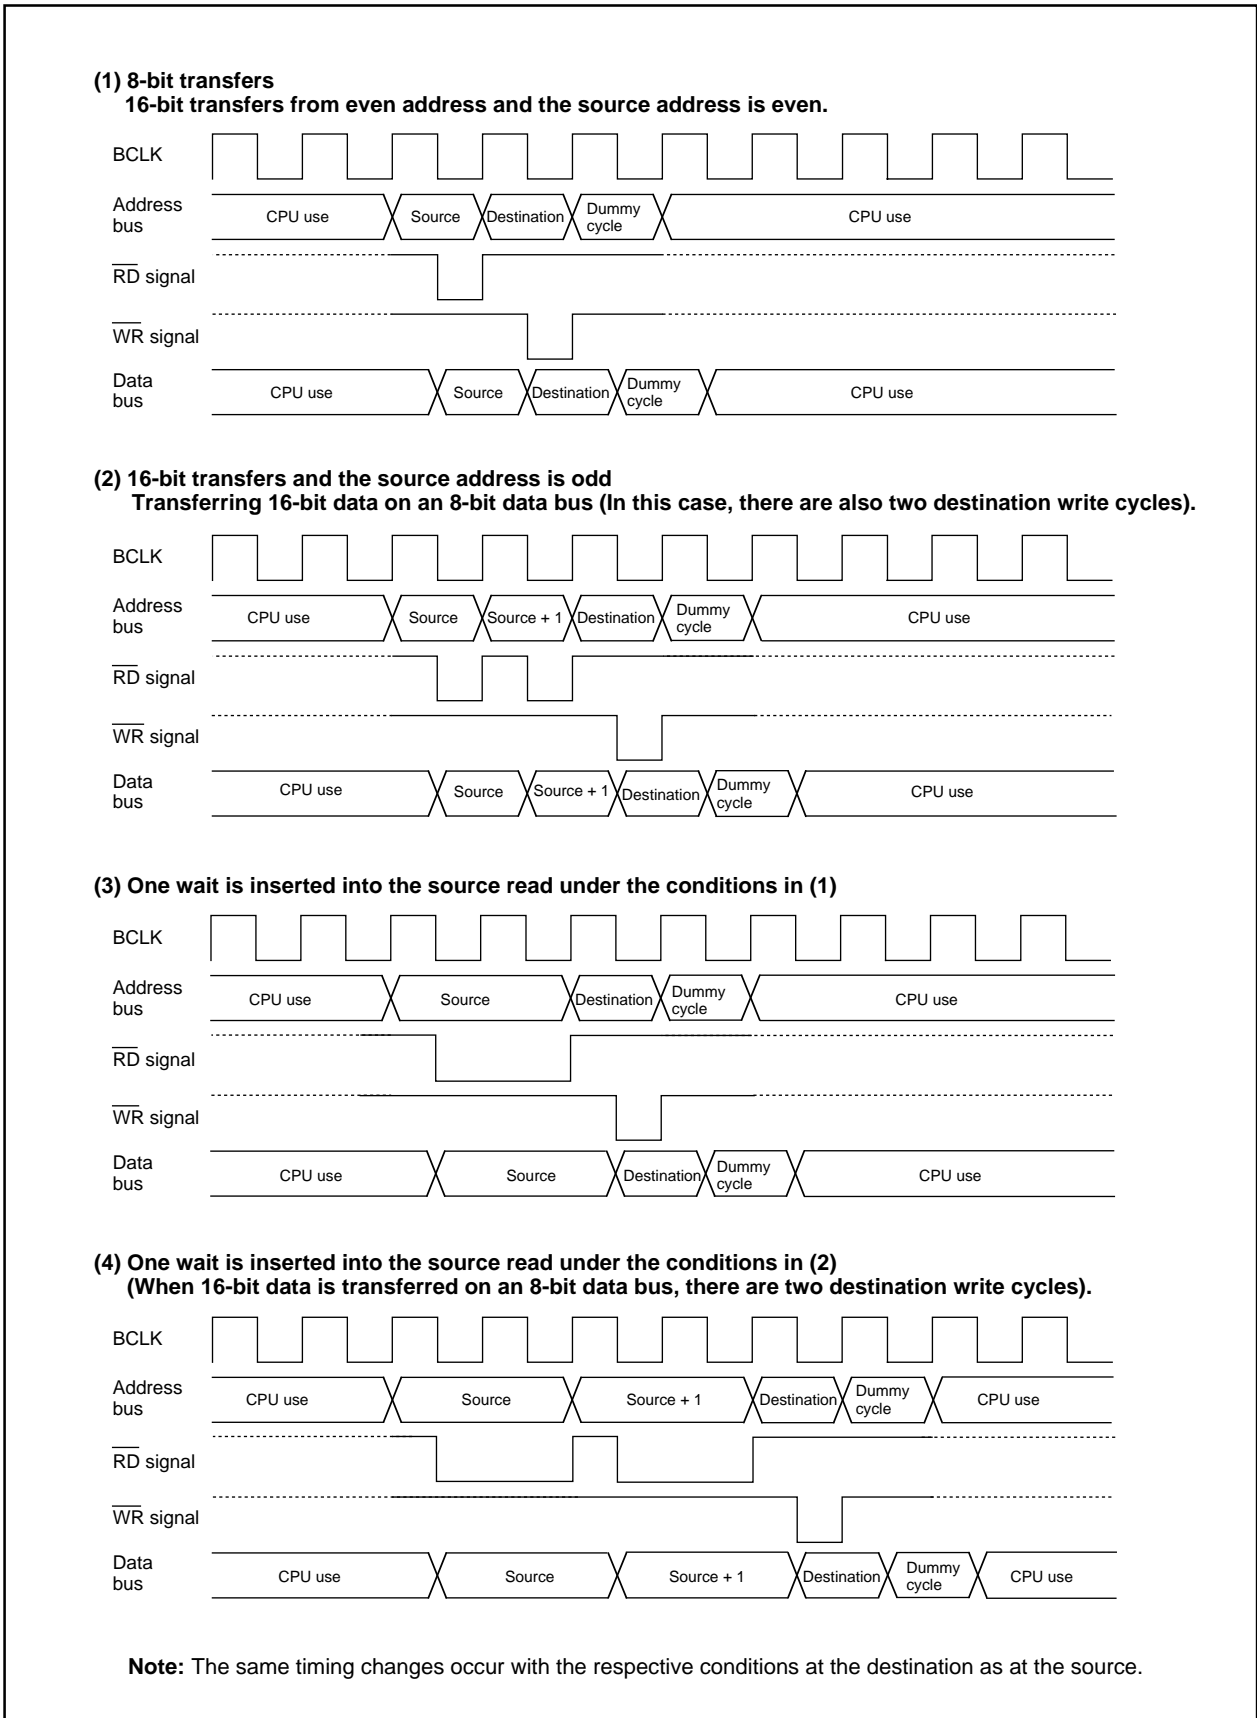

Figure 2.9.8 Example of the transfer cycles for a source read
Figure 2.9.8 shows the example of the transfer cycles for a source read. For convenience, the destination write cycle is shown as one cycle and the source read cycles for the different conditions are shown. In reality, the destination write cycle is subject to the same conditions as the source read cycle, with the transfer cycle changing accordingly. When calculating the transfer cycle, remember to apply the respective conditions to both the destination write cycle and the source read cycle. For example (2) in Figure 47, if data is being transferred in 16-bit units on an 8-bit bus, two bus cycles are required for both the source read cycle and the destination write cycle.